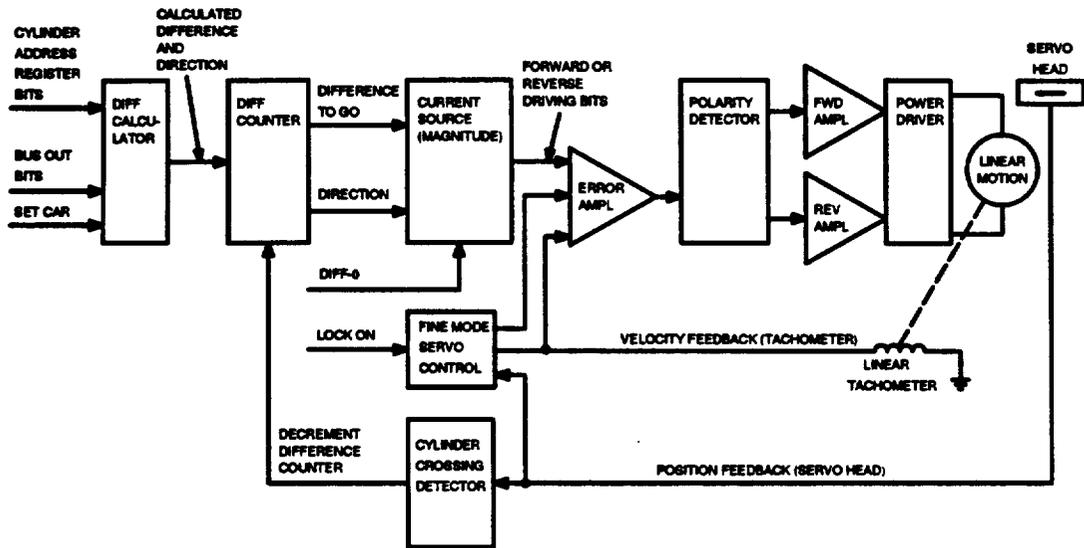

Figure 10. Basic Servo Block Diagram
3.09 The read/write heads are moved to a cylinder position specified by the cylinder address in bus bits 0 through 9 when the Cylinder Select Tag is active. This movement is done by a linear dc motor under control of the signals read from the servo surface of the disk pack. Figure 10 is a block diagram of the servo system.